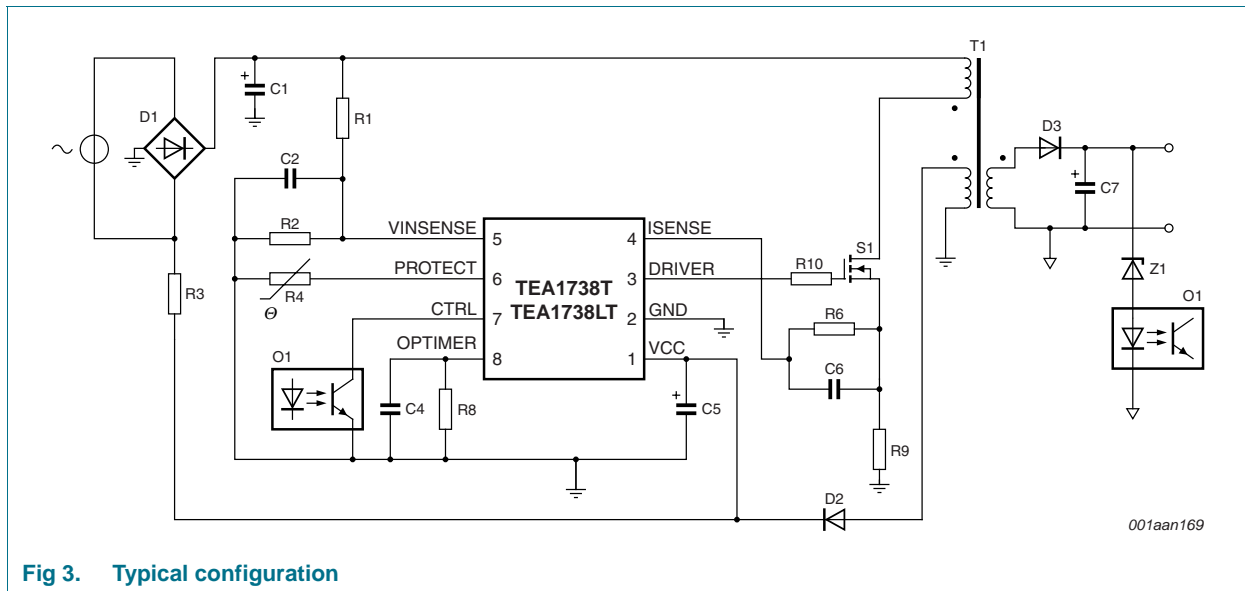
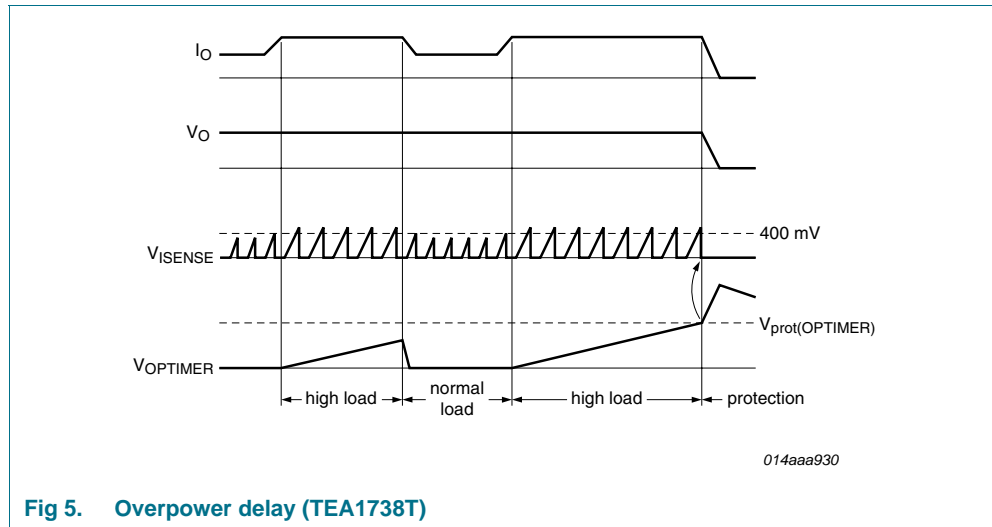
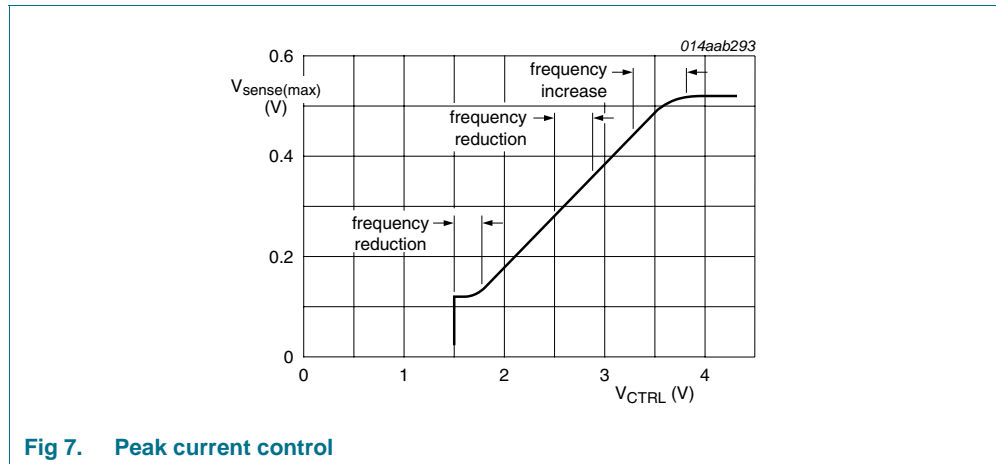
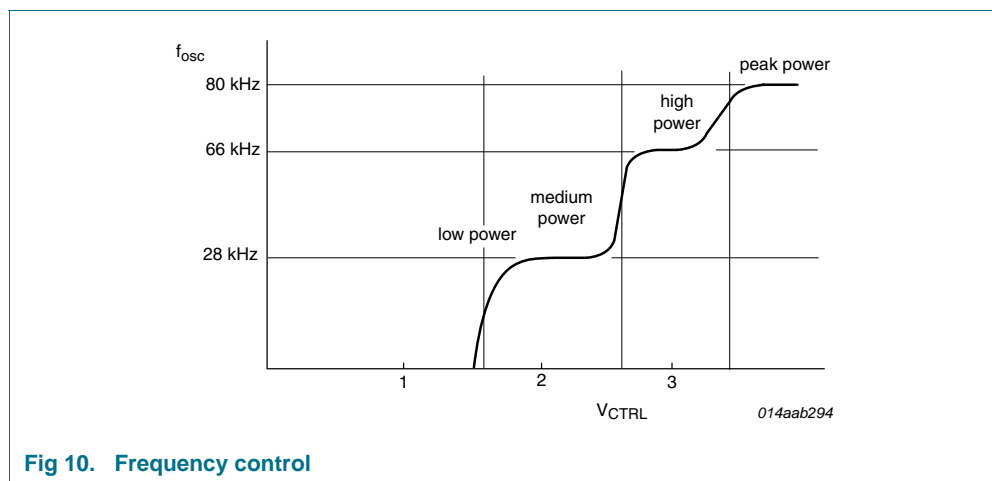

Fig 3. Typical configuration
Fig 5. Overpower delay (TEA1738T)
Fig 7. Peak current control
Fig 10. Frequency control
The TEA1738(L) contains a flyback circuit controller, a typical configuration of which is shown in Figure 3.
If the OPTIMER pin is connected to capacitor C4 (see Figure 3), a temporary overload situation is allowed. $V_{\text{ctrl}(I_{\text{peak}})}$ (see Figure 1) is set by pin CTRL. When $V_{\text{ctrl}(I_{\text{peak}})}$ is above 400 mV, the $I_{\text{O}(\text{OPTIMER})}$ current (11 μA typical) is sourced from the OPTIMER pin. If the voltage on the OPTIMER pin reaches the $V_{\text{prot}(\text{OPTIMER})}$ voltage (2.5 V typical) the OverPower Protection (OPP) is triggered (see Figure 5).
The primary current is sensed by the ISENSE pin across external resistor R9 (see Figure 3) and compared with an internal control voltage. The internal control voltage is proportional to the CTRL pin voltage (see Figure 7).
A soft start is performed to prevent audible noise during start-up or a restart condition. Before the converter (re)starts, soft start capacitor C6 (see Figure 3) on the ISENSE pin is charged. When the converter (re)starts switching, the primary peak current slowly increases as the soft start capacitor discharges through the soft start resistor (R6, see Figure 3).
The switching frequency is increased for peak power operation. In medium power operation the switching losses are reduced by lowering the switching frequency. A second frequency reduction step is made when the output power is reduced to low power. In low power operation the converter switching frequency is reduced while the peak current is set to 25 % of the maximum peak current (see Figure 7 and Figure 10).